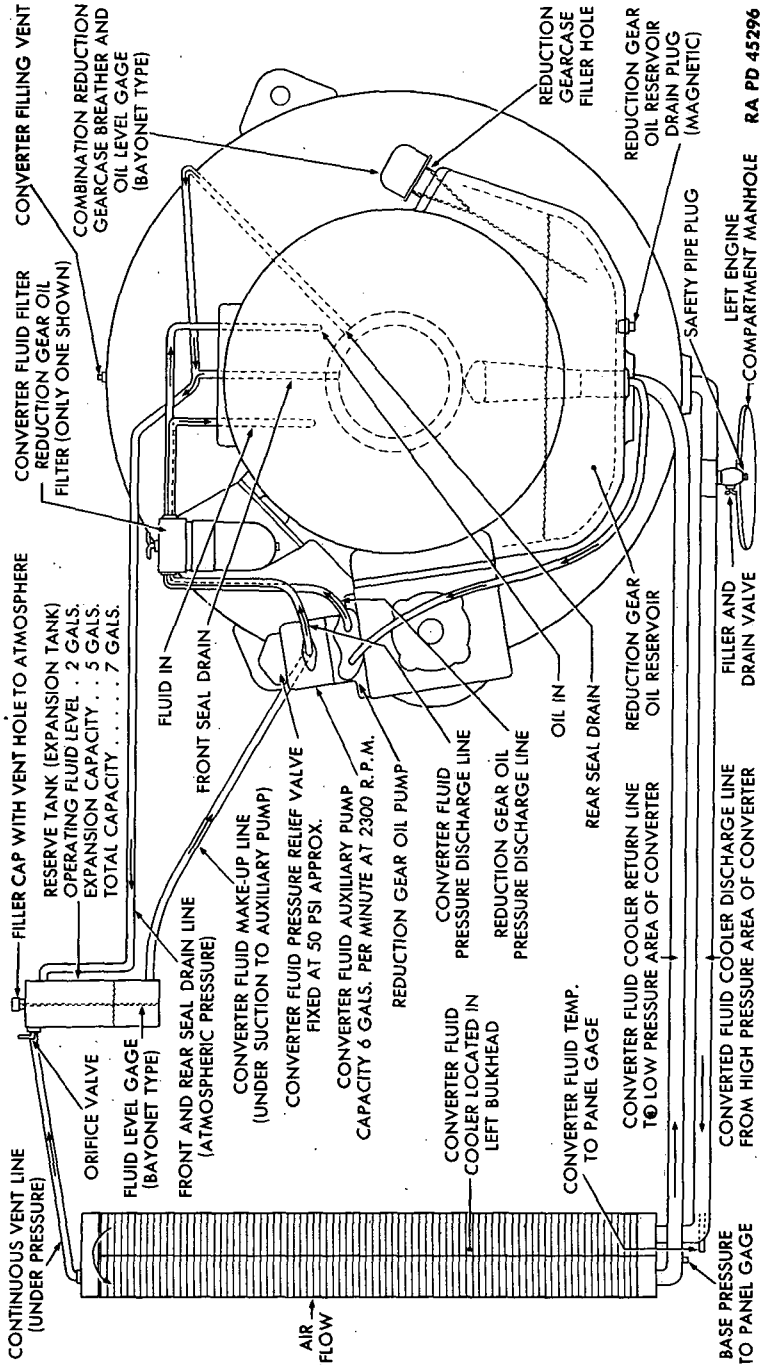

Figure 10—Torque Converter Fluid System
24. TORQUE CONVERTER LUBRICATION SYSTEM (fig. 10).